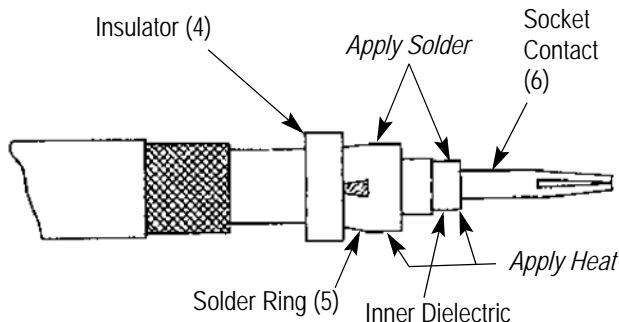

Figure 4
If the inner conductor is stranded, it must be tinned. Position socket contact (6) against inner dielectric as shown in Figure 4.
Holding components firmly in place, apply solder. Use only 1/32 in. diameter resin core solder. See Figure 4.